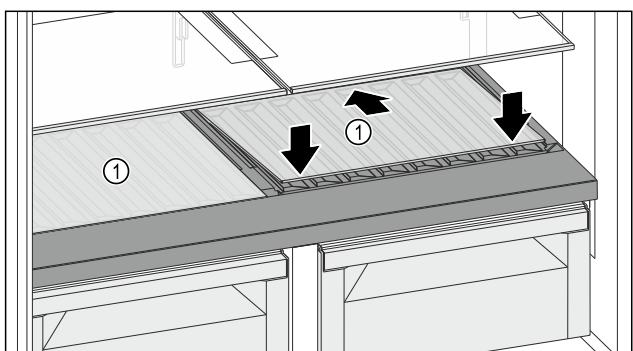

Fig. 119
- ▶ Place the glass shelf Fig. 119 (1) at an angle, tilted back and down.
- ▶ Lower the glass shelf Fig. 119 (1) at the front.